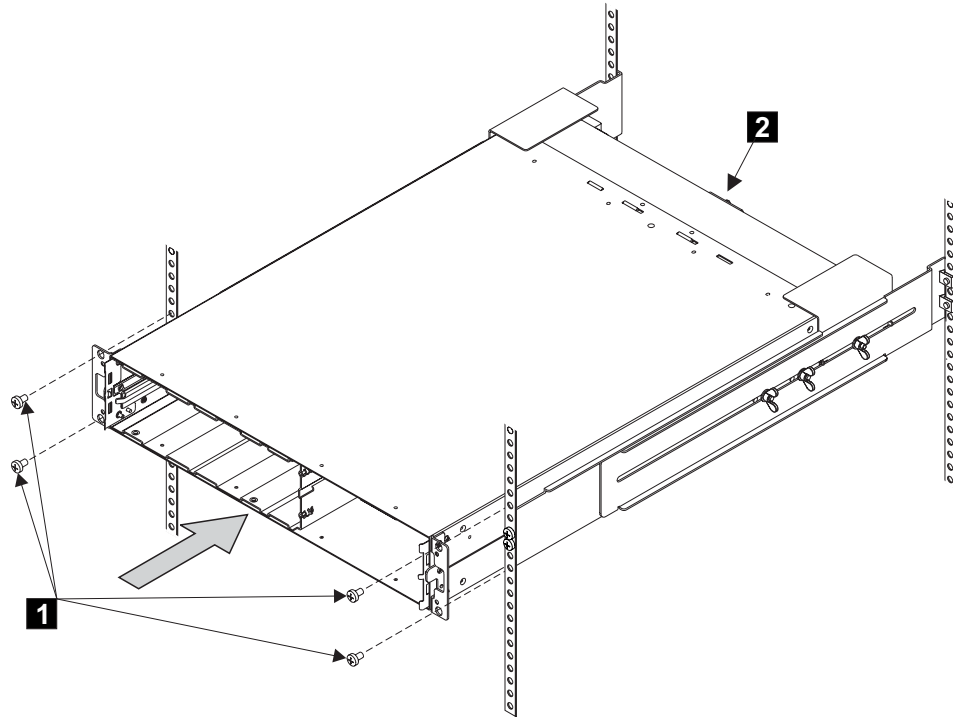

Figure 77. Replacing the uninterruptible power supply 5125 into a rack
5. Install the front flathead screws **1** (see Figure 77 on page 205).